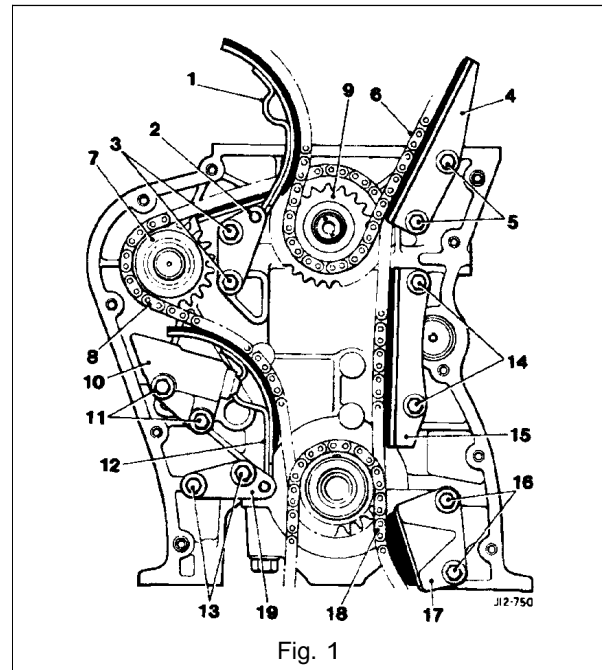

Fig. 1
- Clean all component parts and check for wear or damage, renew worn or damaged components as necessary. Check for wear and renew the auxiliary shaft bushes (1 Fig. 1) using Service Tool 18G 1434 (2 Fig. 1).